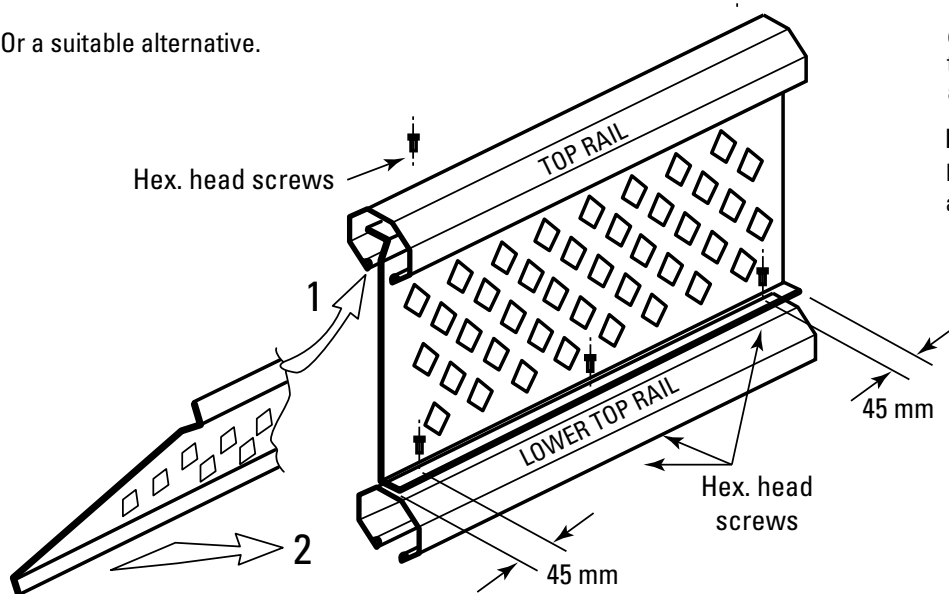

Figure 23.5
- 4) If required, trim the lattice to fit the width of your gate. Equally trim both ends to retain a balanced effect. (Figure 23.5)
15. If your gate includes a lattice, insert it into the top rail. Swing the bottom of the lattice in, and secure it to the lower top rail using 3 hex. head screws for standard width gates, or 3 for extra wide gates. Secure it also to the top rail: 2 screws for standard width gates, and 3 screws for extra width gates. (Figure 23.5)